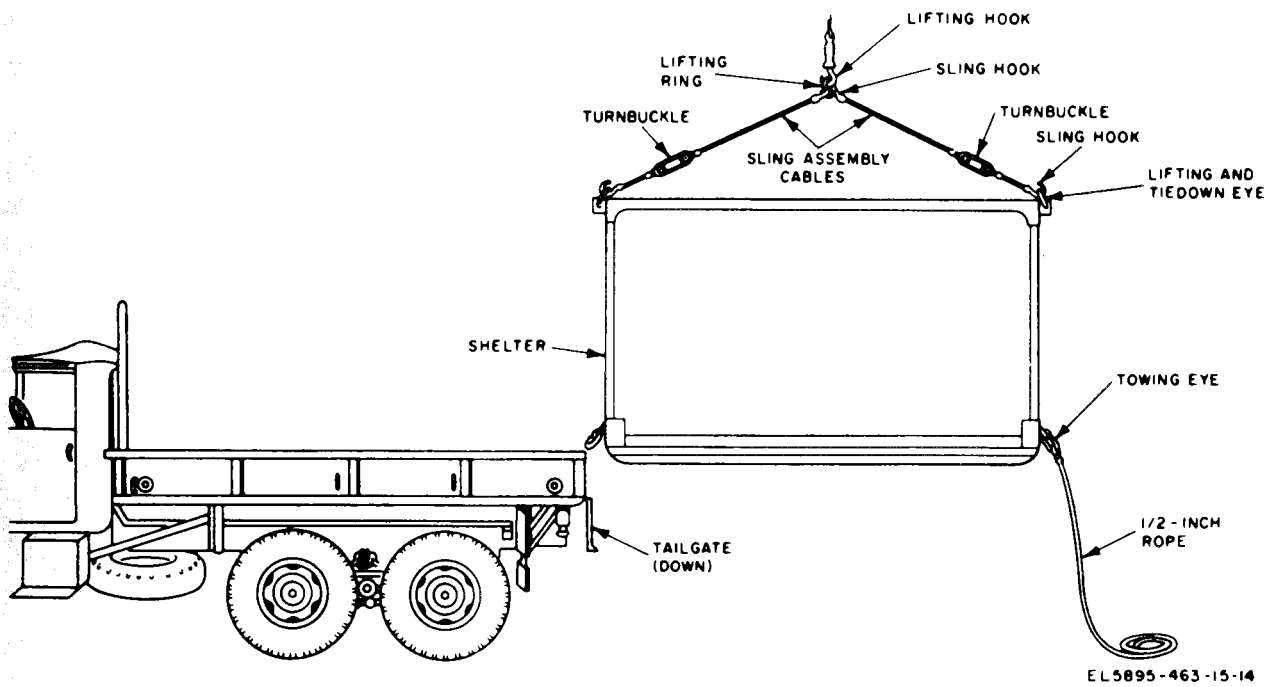

Figure 2-2. Lifting and loading AN/MSC-31A on truck.
(1) Use the sling hooks (nearest turnbuckle) to connect the sling assemblies to the lifting and tiedown eyes of the shelter (fig. 2-2). Connect the sling hooks, at the opposite ends of the cables, to the lifting ring, and place the lifting ring over the lifting hook of the lifting device.